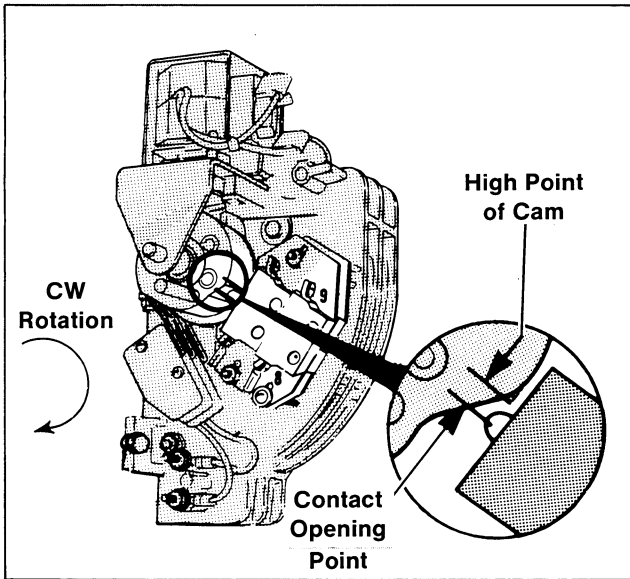

Figure 1-9. Normal to Emergency Cam
- b. With manual operator handle, move transfer switch from normal to emergency. Contacts should open at about .125-.187 in. (3.18-4.75 mm) before high point of cam. See Figure 1-9.